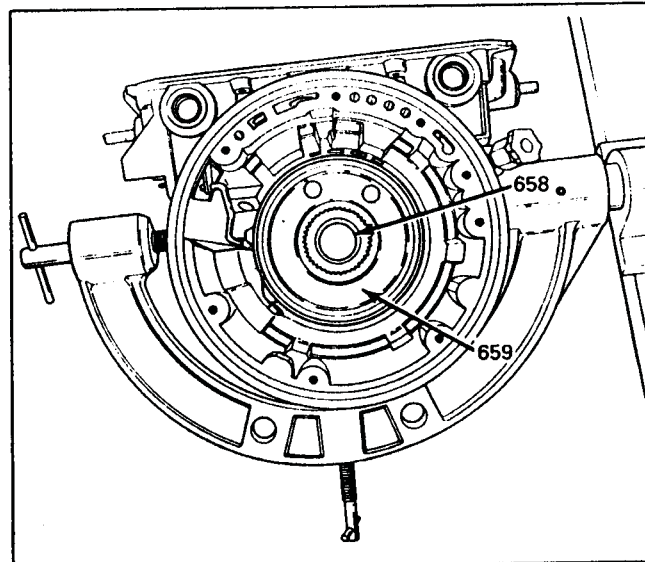

Figure 47
19. Remove the reaction sun gear by turning slowly while lifting from the brake drum assembly (See Figure 47).